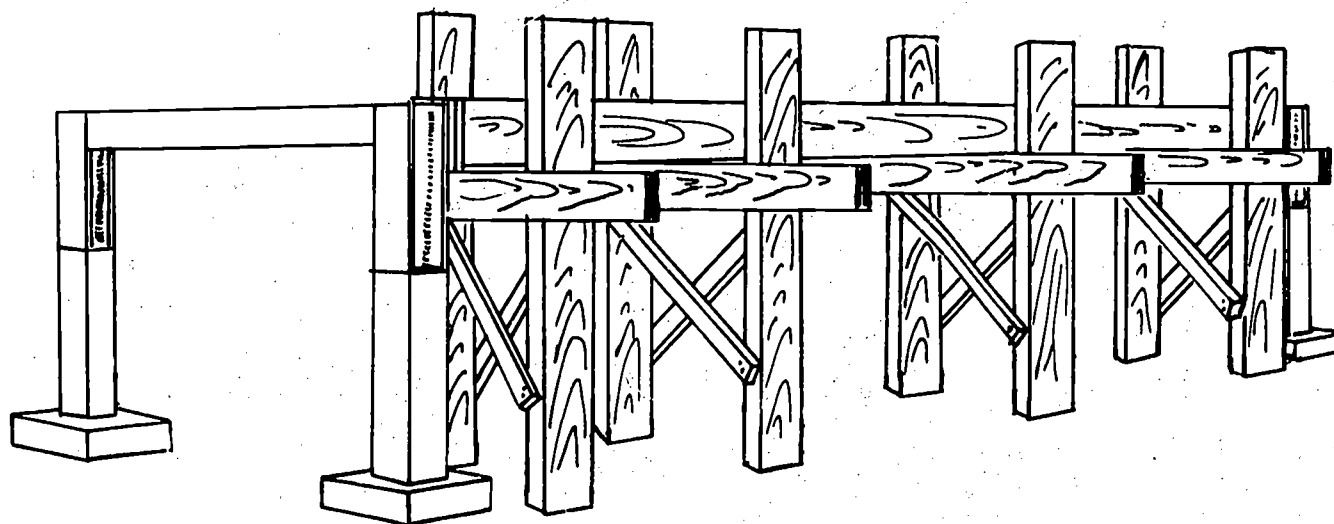

Fig. 46-5. Shoring for Concrete Frame
2. The remaining class members will place their shoring members in the positions illustrated in Fig. 46-5.